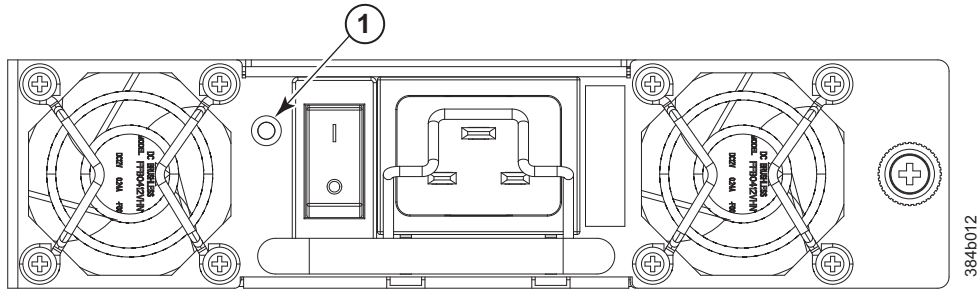

Figure 31. Power supply
1. Check the LED indicators on each power supply (see Figure 31 on page 68). The LED patterns may temporarily change during POST and other diagnostic tests; for information about how to interpret the LED patterns, see Table 12 on page 68. Be sure to check both power supplies.